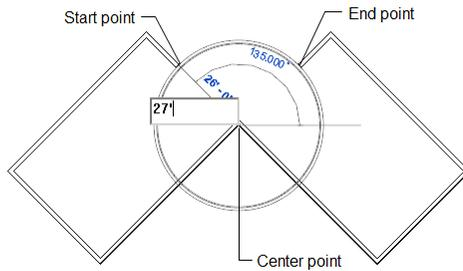

Figure 3-50 Starting the curved wall segment
- Choose the **Center-ends Arc** tool in the **Draw** panel of the **Modify | Place Wall** tab. Move the cursor in the drawing window and click on the outer intersection of the inclined walls to specify the center of the curved wall, refer to Figure 3-50.
- Move the cursor near the endpoint of the last sketched inclined wall segment. When 135-degree is displayed as the angular dimension, enter the value **27' (8230 mm)** as the radius of the curved wall and press ENTER, as shown in Figure 3-50. On doing so, the curved wall with the specified radius starts from the specified point.